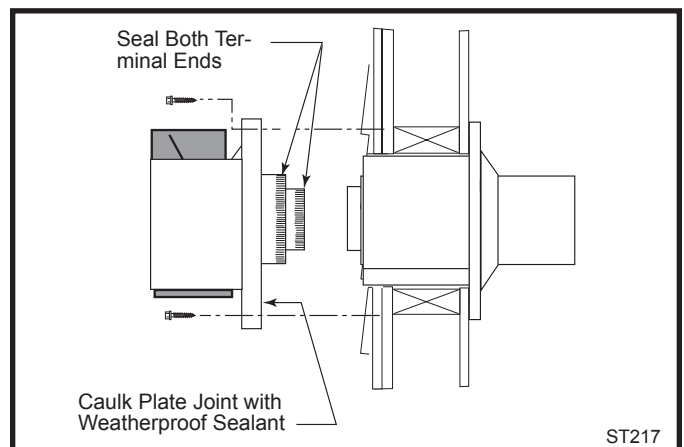

Fig. 28 Install the vent terminal.
10. For both Vermont Castings Group and DuraVent Systems: Install the vent terminal. (Fig. 28) Apply high temperature sealant one inch from the ends of the inner and outer collars. Guide the inner and outer vent termination collars into the adjacent pipes. Double check that the vent pipes overlap the collars by 2". Fasten the termination to the wall with the screws provided, and caulk the joint with weatherproof sealant.